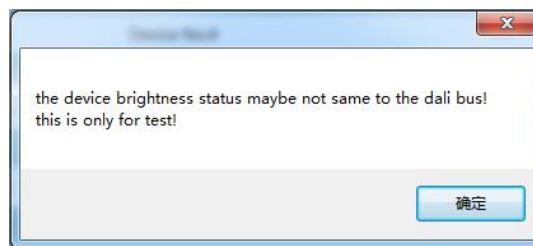
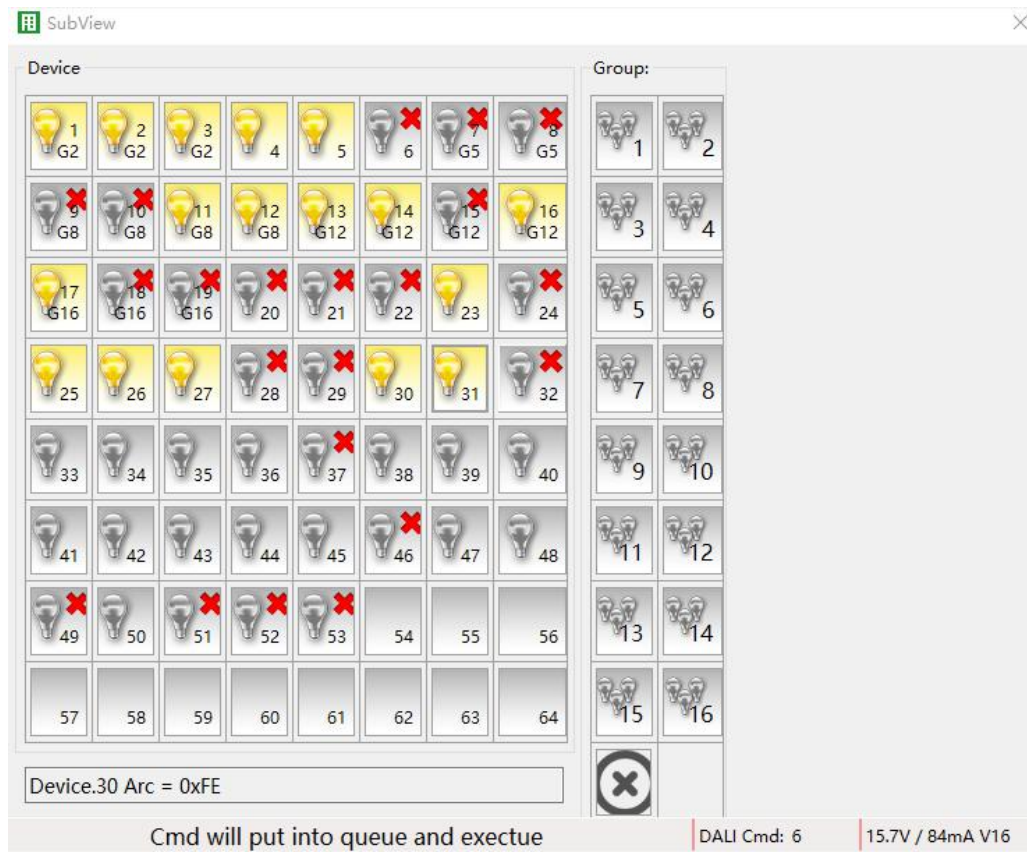

Fig. 2.5 [Online|Group] pop-up windows
Fig. 2.6 Online|Group test interface
Click the shortcut button [Online|Group] at the bottom of the menu bar to pop up the window as shown in Fig. 2.5, prompting “The device brightness status maybe not same to the dali bus! This is only for test!”. Click sure to enter Online|Group test interface, as shown in Fig. 2.6.
① **[StoreDevice]:** Save the modified configuration of the device. After saving, the device on the DALI bus can apply directly the saved configuration.
② **[ReadDevice]:** All information of the device can be read from DALI bus, and display to DCA synchronously, such as device type, parameter setting, scene setting.
③ **[ApplyUserConfig]:** After importing configuration, if you want some devices to use this configuration, then click this button, and it can apply user configuration to device and display to parameter interface synchronously. If you want to save to the device, you also need to click the button [StoreDevice].
④ **[Addr.]:** Display the DALI address of the selected DALI device, users can modify DALI address in the Online|Group test interface, as shown in the Fig. 2.6.
⑤ **[Desc.]:** Click the configuration of this parameter to modify description of DALI device.
⑥ **[DeviceType]:** Display DALI device type, such as DT6 for displaying 6 in the column.
⑦ **[Group]:** Display the group that DALI device belongs to. “NotJoin” means not assigning to any group. Click the configuration of this parameter to get the drop-down menu, it can assign groups to DALI devices.
⑧ **Parameter setting:** Parameter setting of the DALI device including fade time, fade rate, max.level brightness, min.level brightness, power on level, system failure level and Phys.Min.level brightness, in which Phys.Min.level brightness is the characteristic of the DALI device and cannot be modified.
⑨ **Scene setting:** Scene assignment of this device can be checked in the device list, up to 16 DALI scenes can be configured, users can modify the preset brightness value of each scene. After finishing the modification, click [StoreDevice] button on the upper of the window. KNX scene number of the corresponding scene can be configured through ETS parameters. “Mask” means the device has not assigned the scene, “Not change” means the brightness of this scene has no change.